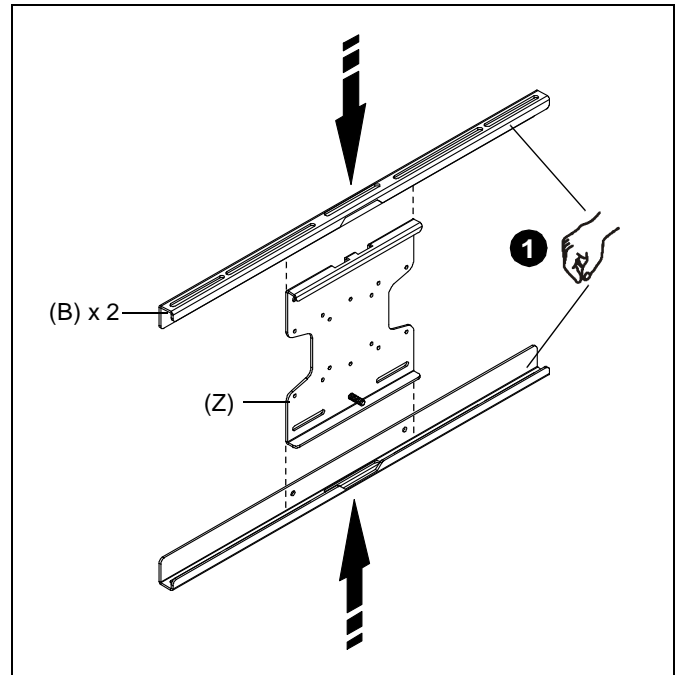

Figure 6
1. Align faceplate brackets (B) with faceplate (Z) and slide into position. (See Figure 6)